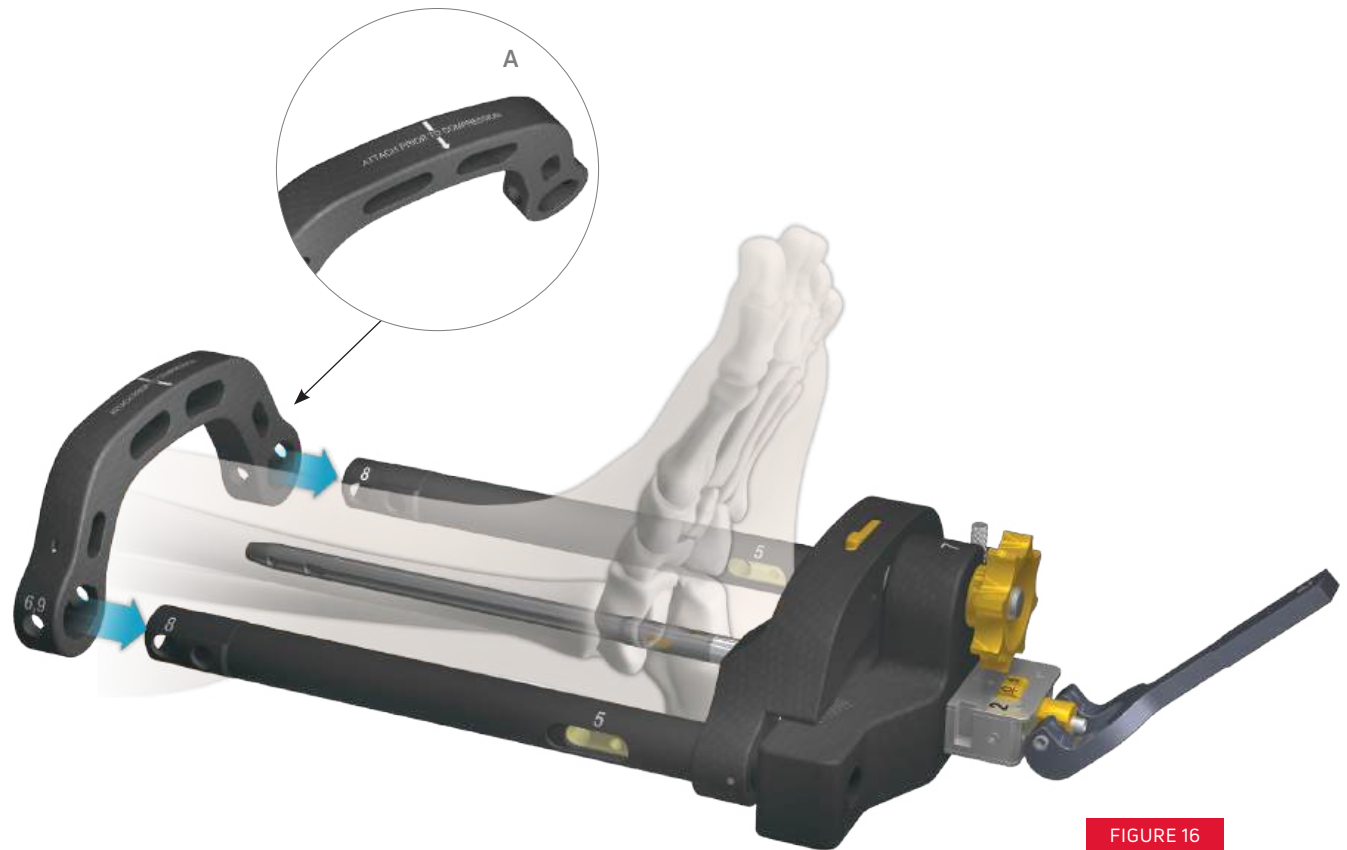

FIGURE 16
4. 8 mm Guide Sleeve (7)
5. 4 mm Drill Guide (6)
6. Trocar Obturator (5)
7. 4 mm Drill (20)
8. Wide 3.5 mm Hex Driver (15)
9. 3.5 mm Hex Driver (16)
10. Blue-Handle Ratchet Driver (36)
Slide the Outer Tube Brace (A) onto the Manual Compression Tubes until it locks in place, ensuring the arrow markings are pointed towards the DynaFrame Assembly (FIGURE 16). Be sure that the holes in the Outer Tube Brace align with the holes in the Manual Compression Tubes.